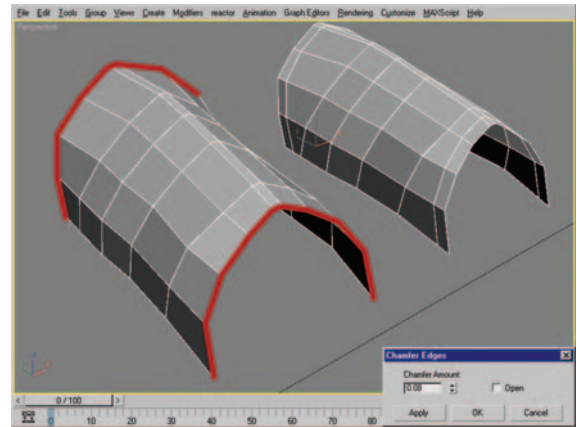

Figure 10.6 Edge selection before and after chamfering.
8. Select the edges seen in Figure 10.6 (left) and use the Chamfer settings dialog box with a Chamfer Amount of 0.08 to create the result seen in Figure 10.6 (right).